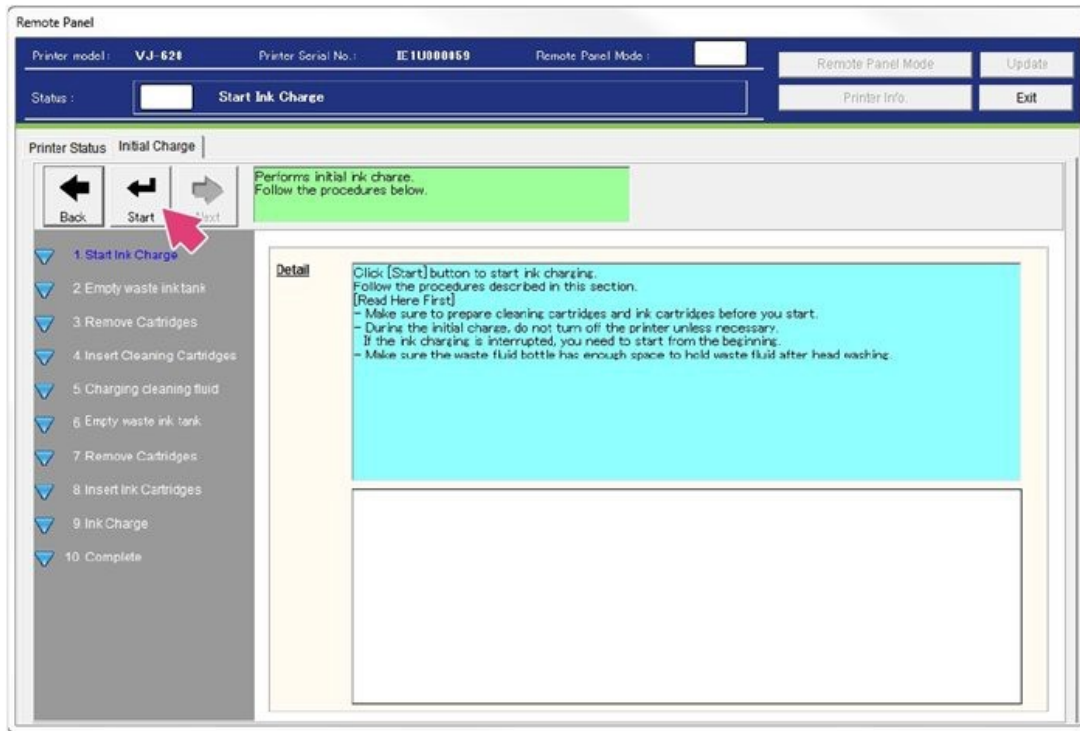

Figure 52
39. Begin the initial ink charge process, you will be prompted to perform an ink charge. Make sure to prepare cleaning cartridges and ink cartridges before you start. During the initial charge, do not turn off the printer unless necessary. If the ink charging is interrupted, you need to start from the beginning. Make sure the waste fluid bottle has enough space to hold waste fluid after head washing. Select **Start**. See Figure 52.